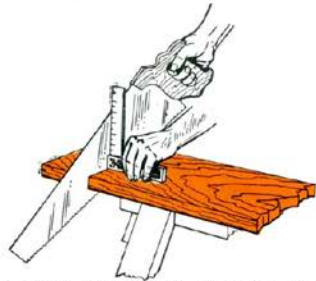

Fig. 8:12 Testing the Saw for Vertical Position
4. Hold the saw so that the blade is at right angles to the face of the board. It may be necessary at first to test the blade with a try square, as shown in Figure 8:12. However, with practice, you will be able to hold the saw automatically at the correct angle.